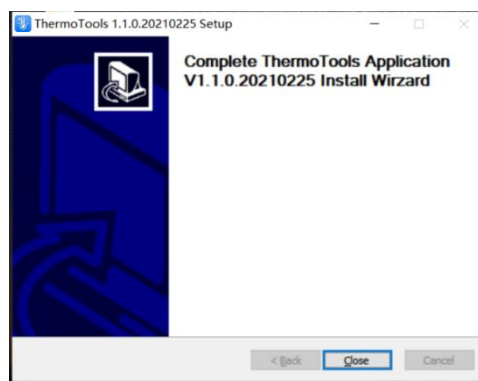

Figure 2-6 Installation Complete
6. Click “Close” when installation is completed, as shown in Figure 2-6.